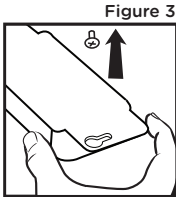
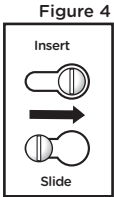

Figure 3
Figure 4
- 8) Secure the switch to mounting surface via keyholes. See **Figure 3** and **Figure 4**. If necessary, tighten screws to secure switch.